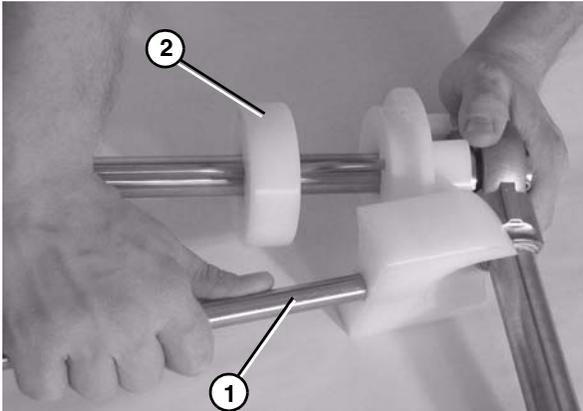

Figure 72
3. Attach the flanged pucks (Figure 72, item 2) and bearing shaft assemblies to the idler shaft.
4. Attach the guard bar (Figure 72, item 1).